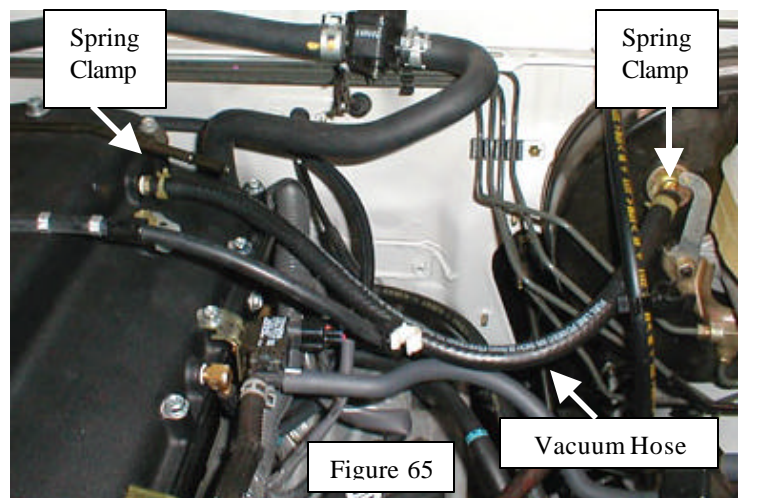

Figure 65
45. On Tundra and Sequoia, connect supplied rubber hose from the vacuum canister to the 3/8" brass barb in the TRD manifold cover. Use a supplied spring clamp on each end of the hose. (Figure 65)